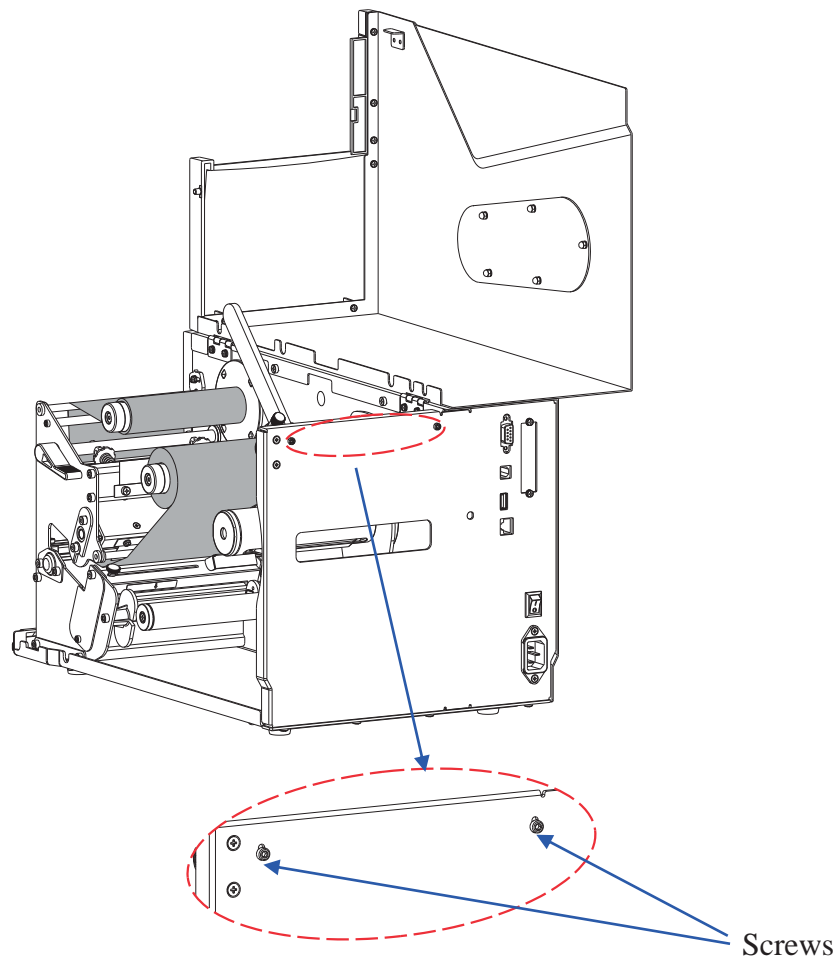

Figure 2-15 Adjust the position of the Media Roll Guide Stopper
2. Adjust the position of the Media Roll Guide Stopper. Refer to Figure 2-15. Loosen (do not remove) the two screws securing the Media Roll Guide Stopper, and then move the Media Roll Guide Stopper upwards until it's stopped, and then fasten the two screws. This will give the media roll guide more room to rotate so as to be able to reach (no touch) the thinner 1.5" core adapter.